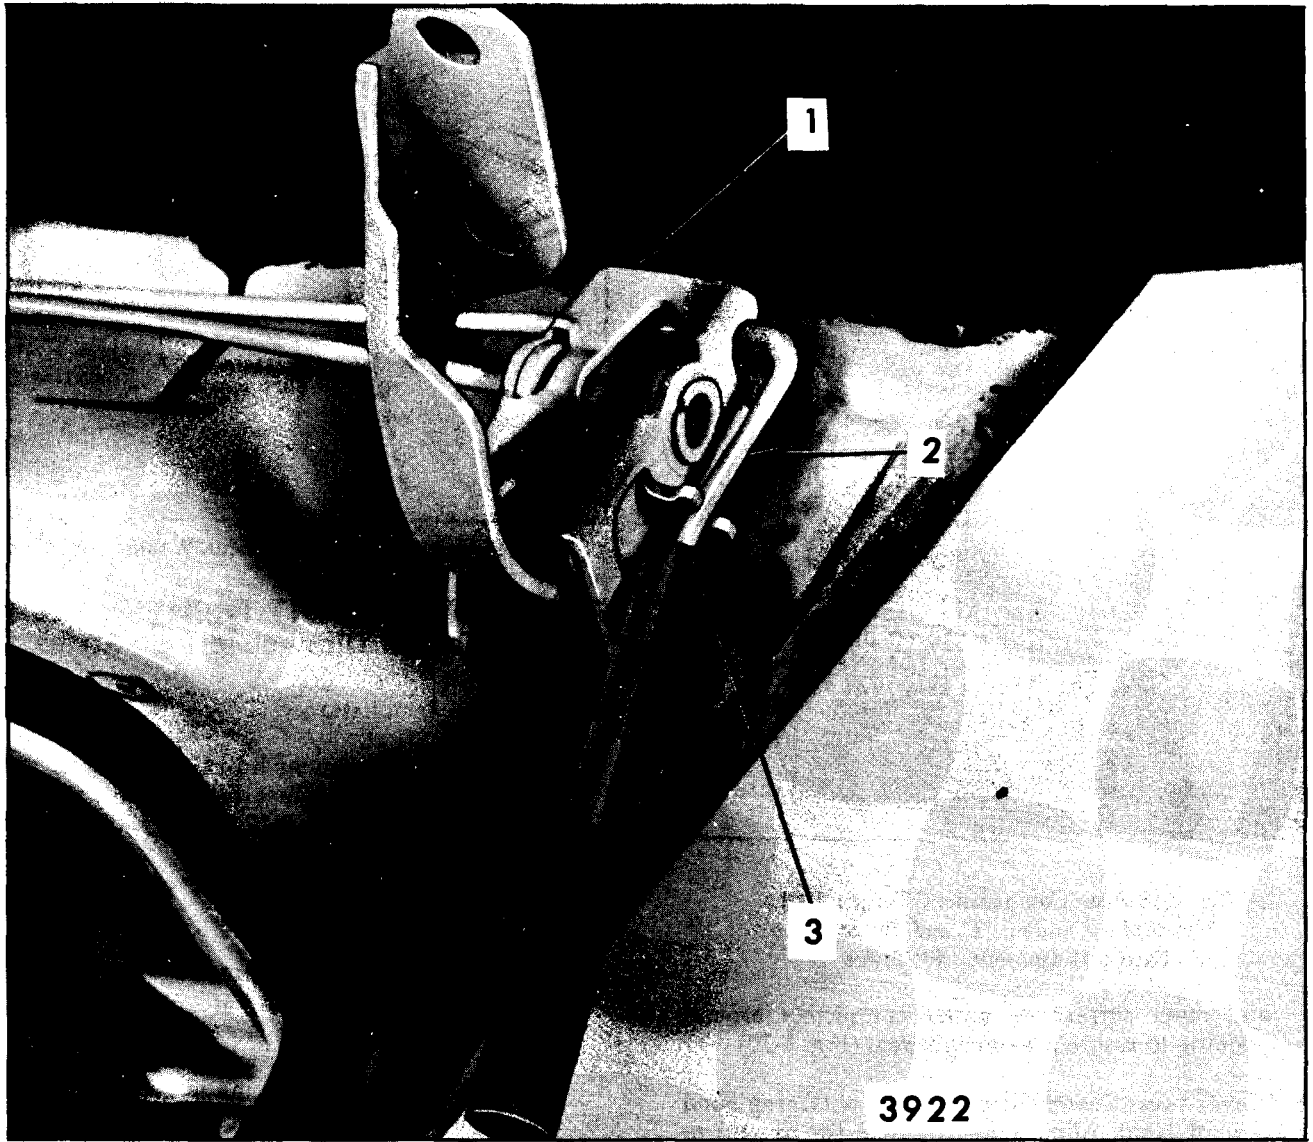

Fig. 8-17-Rear Compartment Torque Rod Adjustment - "F" Styles
- d. On "F" styles, use a length of 1/4" inside diameter pipe (Figure 8-17).